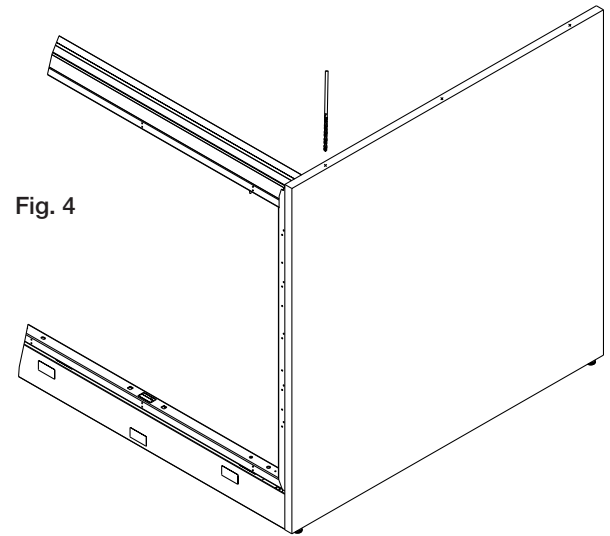

Fig. 4
4. Remove the channel assembly then use a 5/32" drill bit to drill pilot holes 1" deep. Keep holes parallel to the face of the gallery panel. **(Fig. 4)**